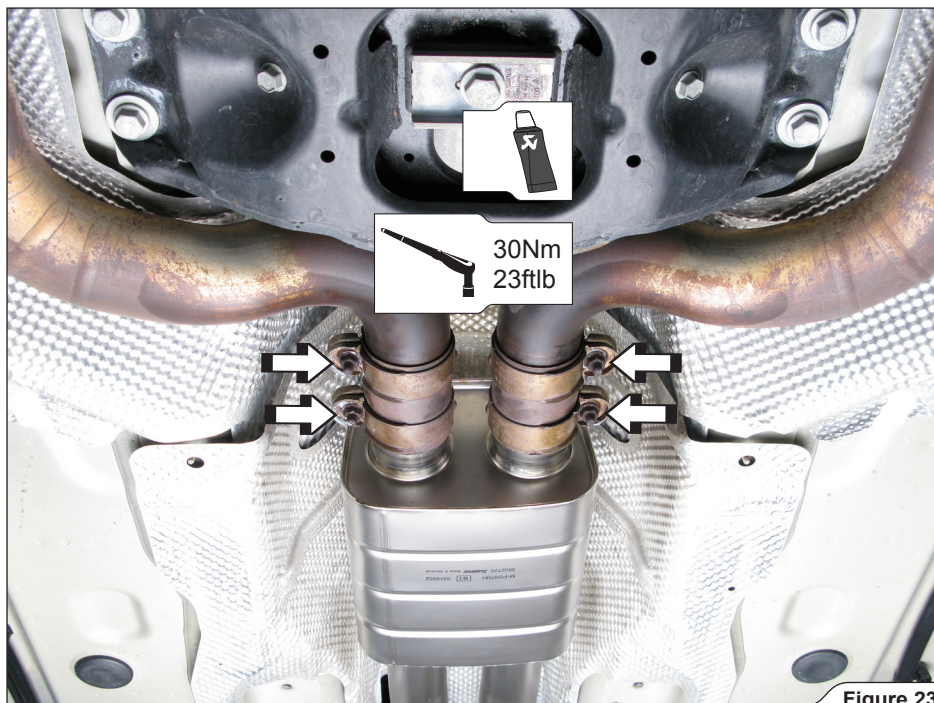

Figure 23
10. **For Turbo/Turbo S vehicle models only:** join the Akrapovič link pipes and original front pipes, using original double clamps. Tighten the clamps to a specified torque (**Figure 23**).